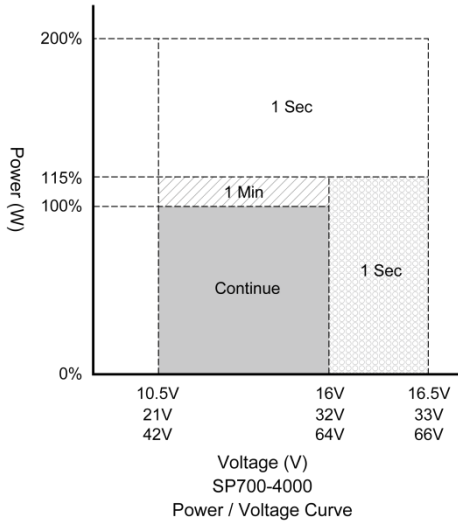

Figure 1. Output power vs. input voltage
- ① Voltage range : Please refer to Figure 1
- ② Normal load Condition : $V_{in} = 12.5V/25V/50V$,
- ② Normal load Condition : $V_{in} = 25V/50V$,